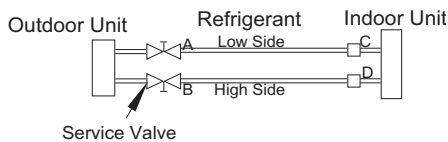

Fig. 15 – Service Valve
1. Completely tighten flare nuts A, B, C, D, connect manifold gage charge hose to a charge port of the low side service valve. (See Fig. 15.)